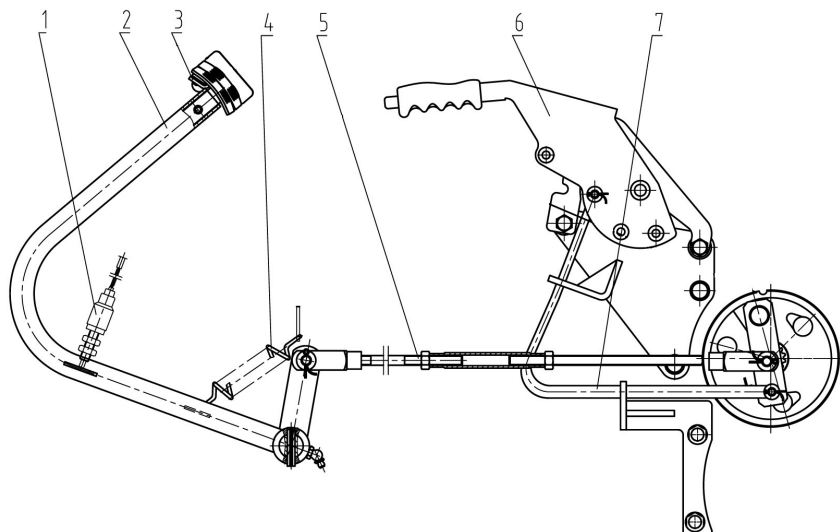

Figure 6-2 Brake operating
The free travel of the pedal is the displacement measured from the highest position of the pedal to the position where you begin to feel resistance when pressing the pedal. It should be in the range of 55~65mm (see Figure 6-2).
Loosen the nut on the pull rod (5) and rotate the adjusting screw to change the length of the brake pull rod. Then press the brake pedal (2) from the highest position to eliminate the gap between the brake disc and the brake shoe. Make the adjustment of the left lever and the right pull rod adjustments identical, then secure them by tightening the lock nut (see Figure 6-2).
Loosen the nut on the pull rod, adjust the stop bolt and then depress the brake pedal (2). Tighten the nut when the brake can be fully applied. You need to readjust the pull rod after using the tractor for a period of time (see Figure 6-2).
Adjust the working stroke of the brake pedal and the nut on the pull rod before you can adjust the brake switch (1) so that the contact between the pedal control board and the brake switch  is compressed by 2~3mm and always in a constant engagement state. Then tighten the nut (see Figure 6-2).
When the left and right brake adjustment is not consistent, inconsistent left, right tyre brake marks and wandering phenomenon will occur if the tractor brakes abruptly during driving at high speed. At this point, the adjusting pull rod (5) on the long side of the mark should be lengthened appropriately and the adjusting pull rod (5) on the short side of the mark should be shortened appropriately. Shorten the adjusting pull rod appropriately until the left and right tyre marks are basically the same length and can ensure reliable braking, then tighten the lock nut and check at low speed, recheck at high speed after adjustment (see Figure 6-2).